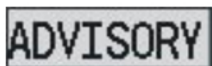

Figure 10-3 ADVISORY Softkey Annunciation
- **MESSAGE ADVISORY:** This level of alert provides general information to the pilot. A message advisory alert does not issue annunciations in the Annunciation Window. Instead, message advisory alerts only issue a flashing **ADVISORY** Softkey annunciation, as shown in *Figure 10-3*. Pressing the **ADVISORY** Softkey acknowledges the presence of the message advisory alert and displays the alert text message in the Alert Window.